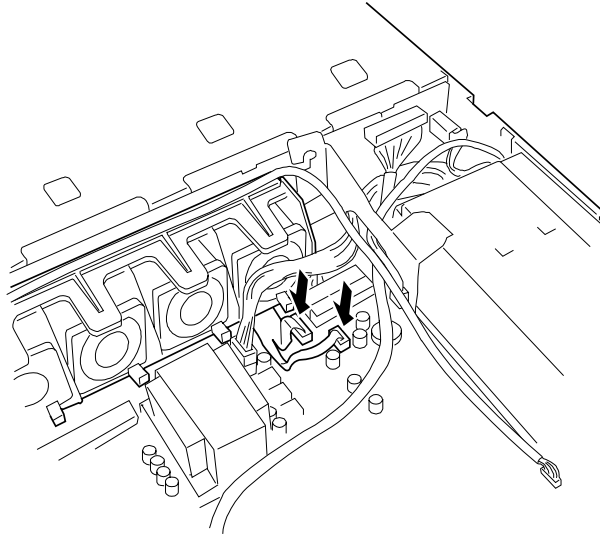

Figure 4-52. Installing the Fan Cables
24. Connect the two fan cables. See Figure 4-52.